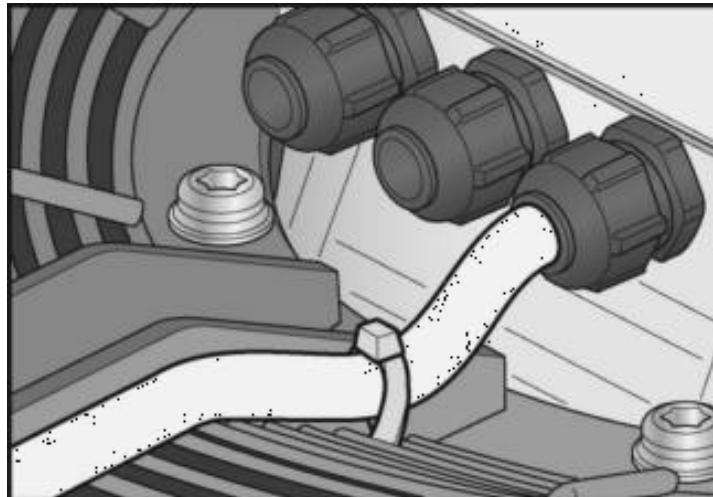

Figure 35. Fan and Motor Assembly Cable Routing
14. Using zip cable ties secure cables to the fan and motor support channels. Ensure the cable is routed in a U-shape as shown in **Figure 35**.